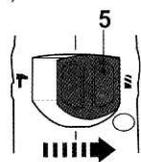

Fig. 8
- > Move the mode selector (5) to the drill symbol  to use the product for drilling holes in wood, plastic and metal (Fig. 8).